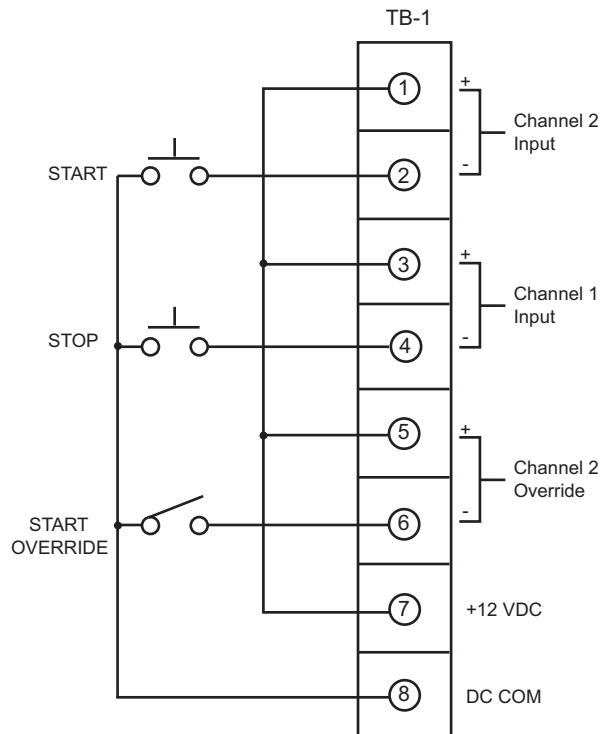

Figure 13a
- 1. Refer to Figures 13a through 16a for various switching devices which can be used.
10. Double check all input wiring and switching circuit hook-up and connection to insure proper wiring and connections. Refer to figures 13a through 16a.